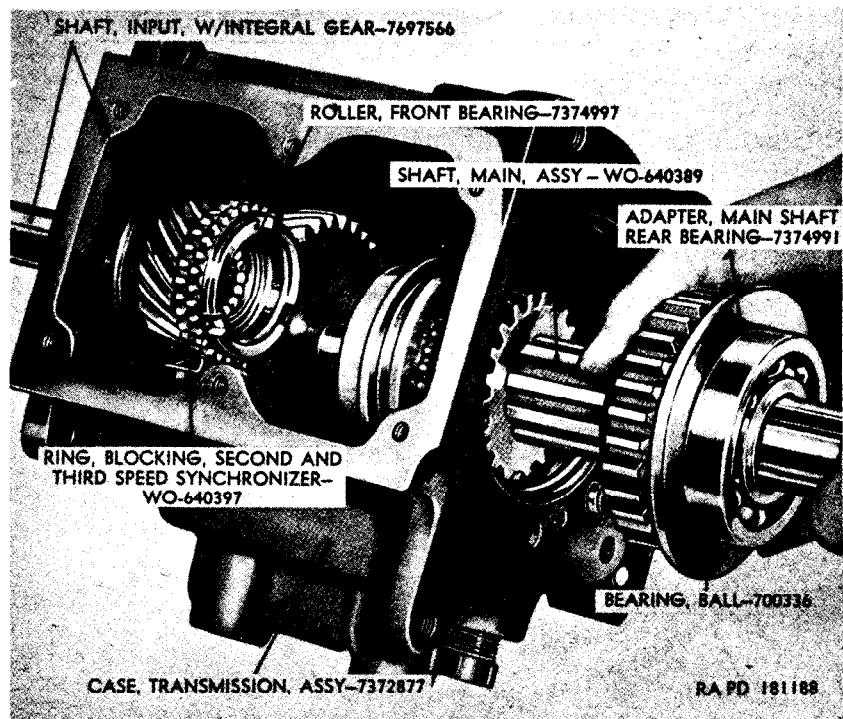

Figure 52. Removing transmission main shaft assembly.
b. *Remove Transmission Main Shaft Assembly* (fig. 52). Slide the transmission main shaft assembly out slightly. Separate main shaft from second and third speed synchronizer sleeve and second and third speed synchronizer blocking ring, and remove shaft assembly from the case. Remove the second and third speed synchronizer blocking ring from input shaft. Remove the front bearing rollers from the input shaft.